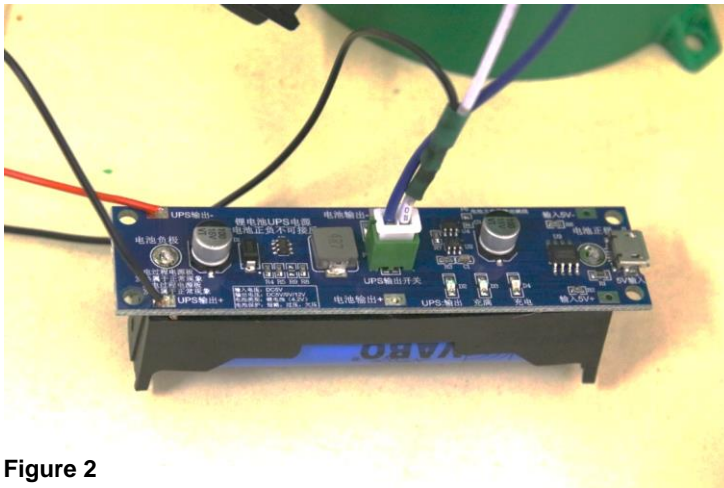

Figure 2
- Attach a wire (we used 25 cm) to one of the cables (cut and solder together) going to the rocker switch. This is to let the Arduino read the battery voltage. To cover the part of the cable where now the insulation (plastic cover) is missing, you can use heat-shrink tubing (see Fig. 2).